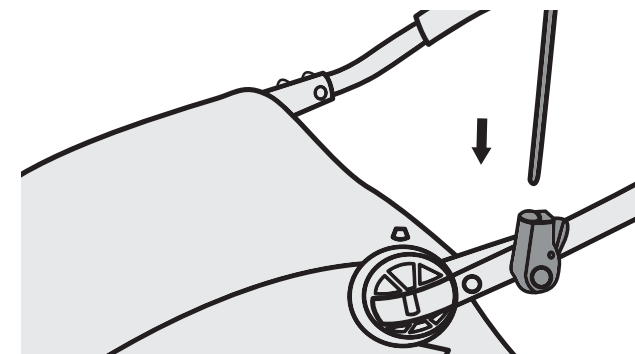

Figure 20
2. Slide Flag pole into hole on flag holder. To release, push button and lift flag pole out (Figure 20).